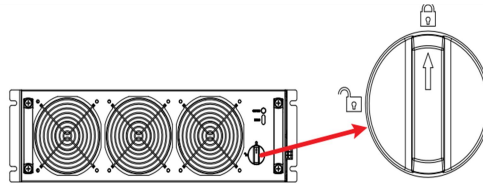

Fig.6-2: Single Unit Block Diagram
3. Turn the module in position switch to the locked state, as shown in Figure 6-2, and tighten the module fixing screw.